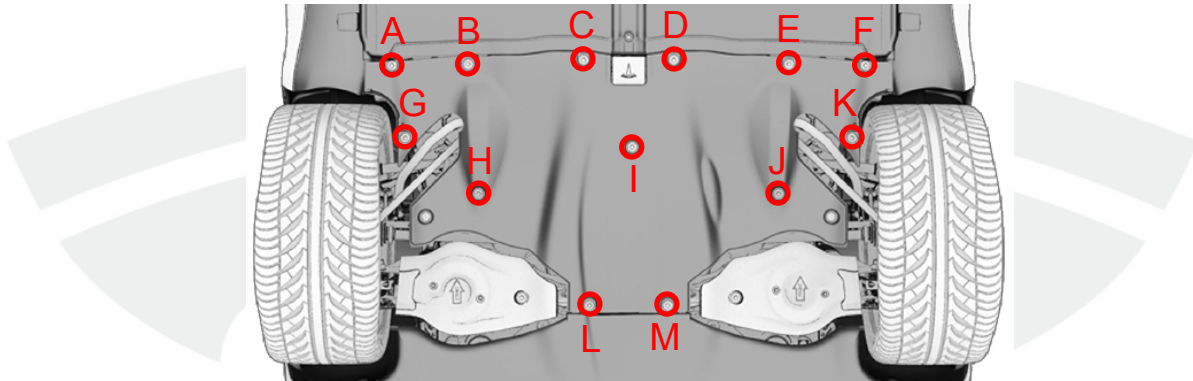

Figure 3 (○ 1083017-00-A (torque 5 Nm))
7. Inspect the mid aero shield panel, and comment in the Cause Narrative field of the Repair Order if the mid aero shield panel is missing, the damage to the panel (if any), and which bolts (if any) are missing (Figure 3).
8. If the mid aero shield panel is present, torque all present bolts to the correct specification (Figure 3), and then comment in the Cause Narrative field of the Repair Order which bolts were under torqued.
9. If the mid aero shield panel is undamaged, hand install all missing bolts, and then torque those bolts to the correct specification (Figure 3).